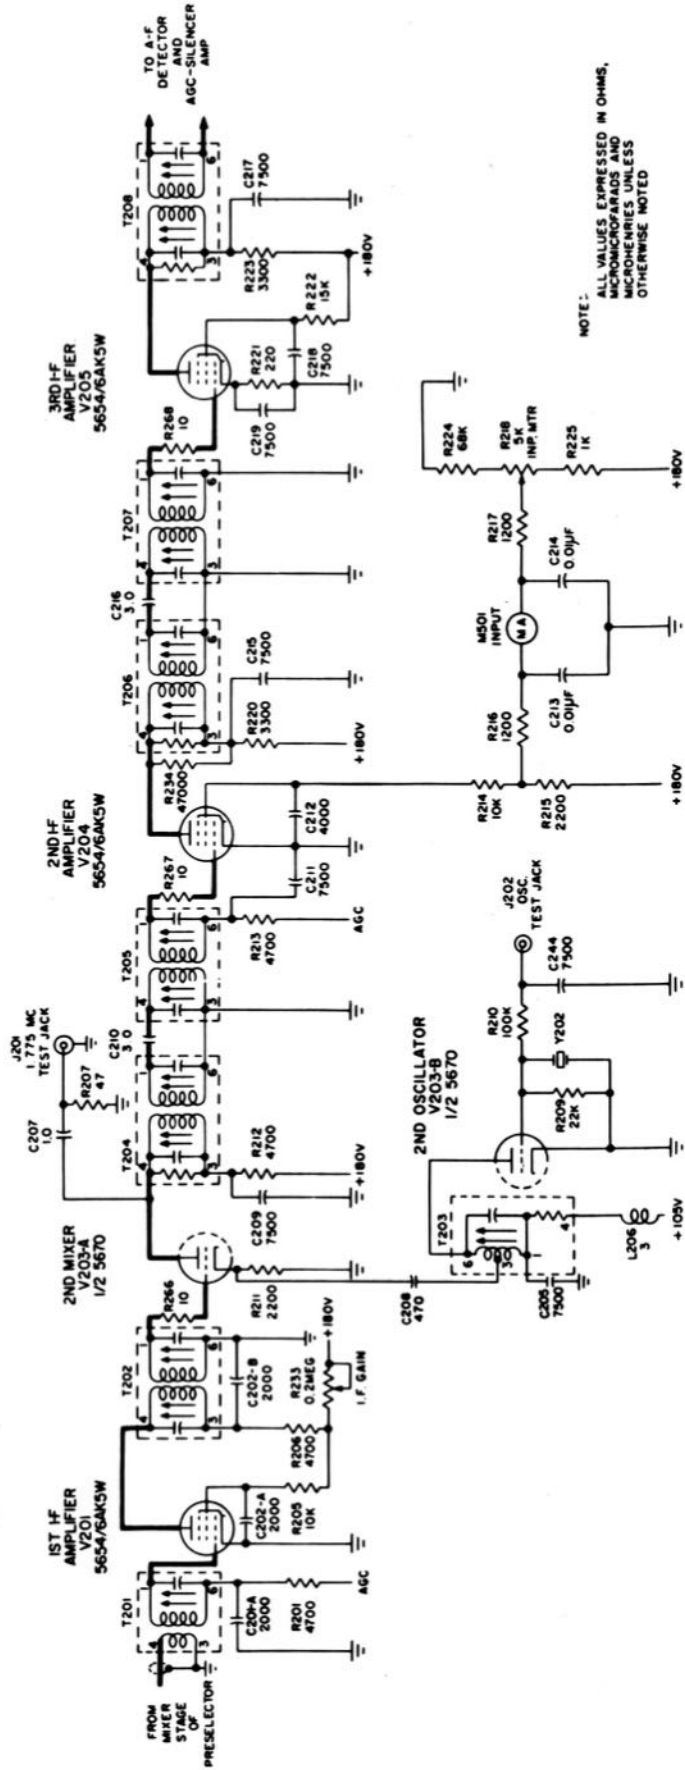

Figure 2-7. I-F Amplifiers and INPUT Meter Circuit, Simplified Schematic Diagram
(1) **FIRST INTERMEDIATE-FREQUENCY AMPLIFIER.**—The i-f signal from the mixer stage of the r-f amplifier section is link-coupled into transformer T201. This transformer, tuned to resonance at 18.6 mc, feeds the grid of the first i-f amplifier, V201; see figure 2-7. The first i-f amplifier is a 5654/6AK5W pentode. AGC voltage is applied through resistor R201 and the transformer to the grid of the i-f amplifier. The AGC system is decoupled from the i-f signal by
(2). **SECOND OSCILLATOR.**—Triode V203B, one half of a type 5670 tube, is used as a crystal-controlled oscillator in order to create a heterodyning signal for the second of the two frequency conversions in this radio set; see figure 2-7. The crystal, Y202, is a type CR-23/U, cut to have a nominal frequency of 16.8250 mc. Grid-leak bias is supplied for the oscillator tube by resistor R209, connected from the control grid to ground and in parallel with the oscillator crystal. Plate voltage for the stage is supplied from the +105 volt source to the plate through oscillator transformer T203. The output signal is applied to the mixer stage from a tap on the transformer coil. The oscillator may be tested by measuring the grid voltage developed across resistor R209 at test point J202. This test point is connected to the common junction of the grid, the grid-biasing resistor, and the crystal, through resistor R210. Resistor R210 and capacitor C244 form a low-pass filter, which isolates the grid circuit from the meter used to measure the grid bias. The sine-wave signal applied to the grid by the oscillator crystal is amplified in the tube and applied to transformer T203. A portion of the signal is applied from a tap on the transformer winding (for impedance matching) to capacitor C208, and from this capacitor to the cathode of the second mixer.
(3) **SECOND MIXER.**—The second mixer, V203A, is one half of a 5670 twin-triode tube, as shown in figure 2-7. The i-f input signal is applied through the secondary winding of i-f transformer T202 to the control grid of the mixer, and the oscillator injection voltage is applied to the cathode. Resistor R266, in the grid circuit, tends to prevent spurious oscillation, while cathode resistor R211 serves as the point of oscillator injection. Plate voltage is supplied to this stage through resistor R212 and i-f transformer T204.
(4) SECOND AND THIRD INTERMEDIATE-FREQUENCY AMPLIFIERS.—The components and circuitry of the second and third i-f amplifier stages are almost identical; see figure 2-7. The essential difference between the two i-f amplifier stages is that the gain of the second i-f amplifier stage is controlled by the AGC voltage, while the third i-f amplifier stage is self-biased.
lator-multiplier section when switch S201 is placed in the ALIGN position. The meter circuit is shown in figure 2-7. One side of meter M501 is connected through a low-pass filter, consisting of resistor R216 and capacitor C213, to the junction of resistors R214 and R215 in the screen-grid circuit of the second i-f amplifier, V204. The other side of the meter is connected through a similar filter (R217 and C214) to the variable contact of INP. MTR. potentiometer R218. Potentiometer R218, together with resistors R224 and R225, form a series voltage divider network from +180 and ground.